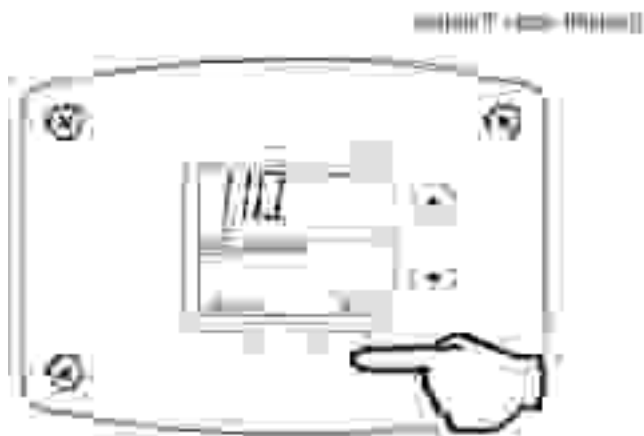

Fig. 59
5. When the desired setpoint is reached on the water heater display, press the 'Set' button to confirm the new setpoint. 'Setpoint' stops flashing in the water heater display (Fig. 59).